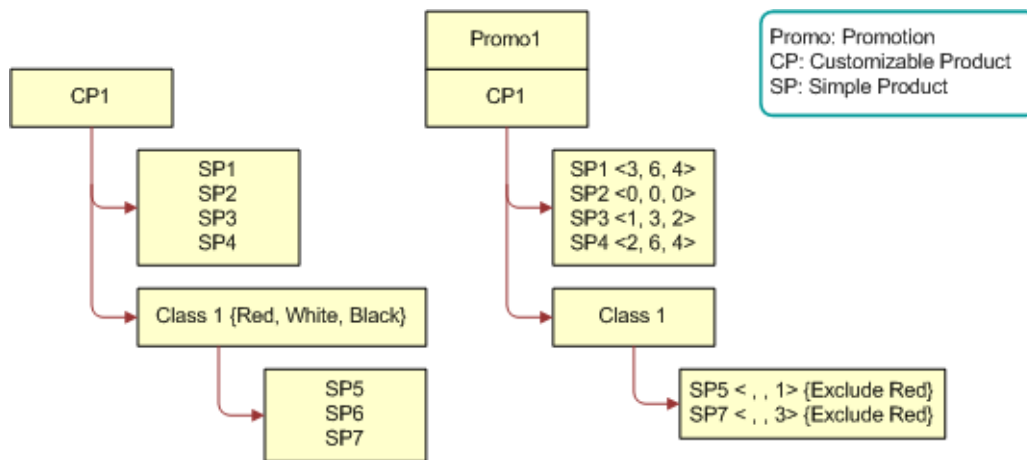

Figure 9. Product Structure for CP1 and Promo 1
- 1 A customizable product named CP1 is defined and a promotion named Promo1 is defined as shown in Figure 9.
Figure 9 shows a product named CP1 with the following structure: CP1 has four simple product relationships defined (SP1, SP2, SP3, SP4) and a Product Class named Class 1. A further three simple product relationships (SP5, SP6, SP7) are defined and associated with Class 1. Class 1 is associated with an attribute that has the values {Red, White, Black}.
Figure 9 shows a promotion named Promo1, where CP1 has the following structure: CP1 has four simple product relationships defined (SP1, SP2, SP3, SP4) and a Product Class named Class 1. A further two simple product relationships (SP5, SP7) are defined and associated with Class 1. For SP1,
- 1 Create the product structure for CP1 and Promo1 as shown Figure 9.